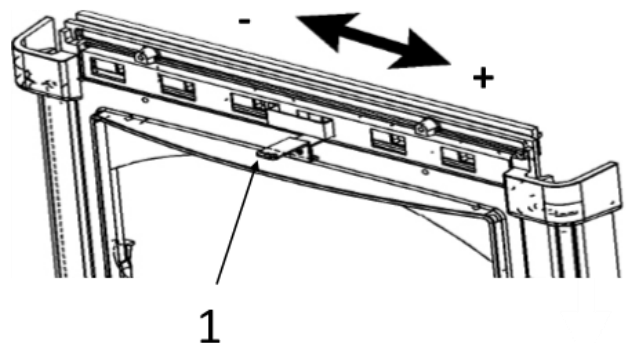
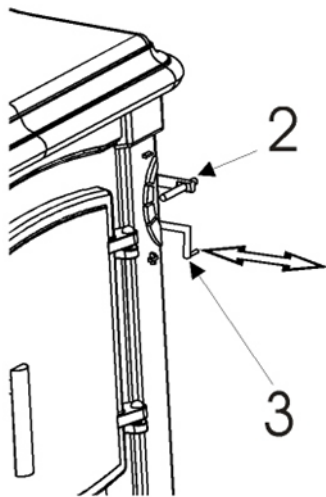

Fig. 4
Fig. 5
3. Open air wash control n° 1 (Fig. 4), leave the stove door slightly ajar, open thermostat n°2 (Fig. 5) and open the direct draught damper n° 3 (Fig. 5) to warm the chimney (pull the handle to the right)
4. After about 10 minutes (more time for poorly drawing chimneys) when combustion is well under way, close the direct draught damper (3) (push the handle to the left) close the thermostat n° 2.